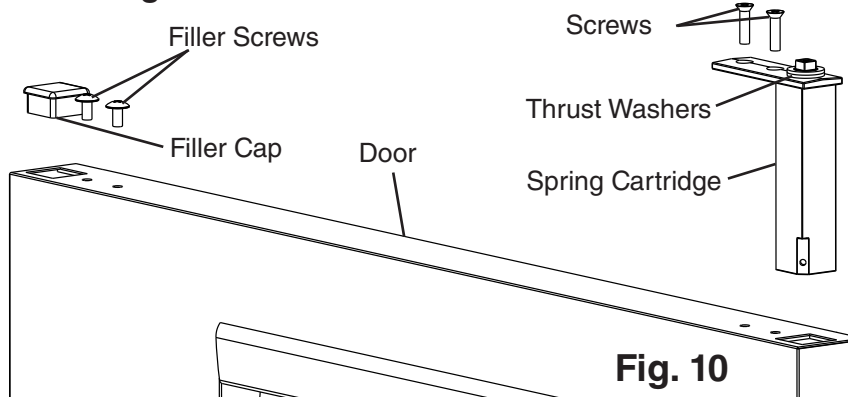

Fig. 10
- 8) Remove the filler cap, filler screws, and spring cartridge. See Fig. 10. Leave the thrust washers in place on the spring cartridge. **NOTICE! Spring cartridge may be difficult to remove. Be careful not to damage the finish.**